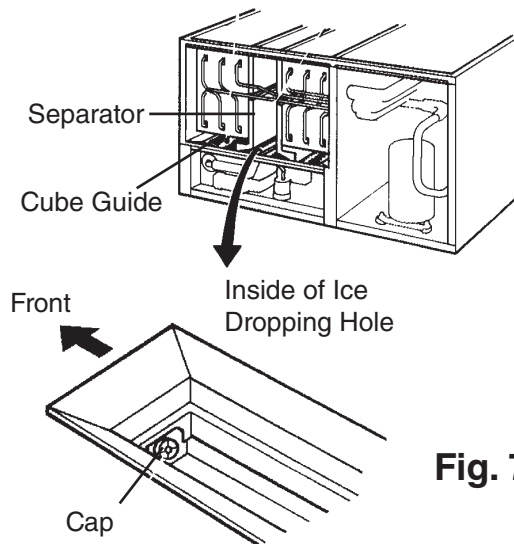

Fig. 7
- 2) Remove the insulation panel. Remove the cap located on the front bottom part of the ice dropping hole. Drain the water tank. See Fig. 7.